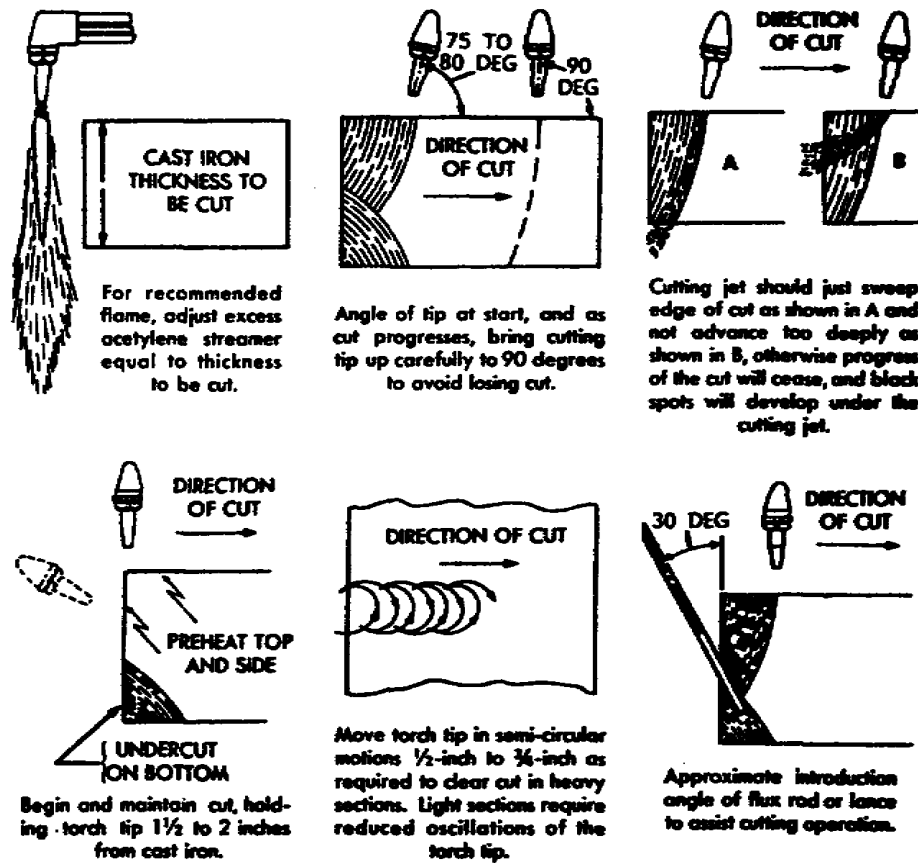

Figure 17. Procedure for oxyacetylene cutting of cast iron.
(1) General. Plain carbon steels, with a carbon content not exceeding 0.25 percent, can be cut without special precautions other than those required to obtain cuts of good quality. On the other hand, certain steel alloys develop high resistance to the action of the cutting oxygen making it difficult, and sometimes impossible, to propagate the cut without the use of special techniques.
(2) High-carbon steels. The action of the cutting torch on these metals is similar to a flame-hardening procedure, inasmuch as the metal adjacent to the cutting area is hardened by being heated above its critical temperature and quenched by the adjacent mass of cold metal. This condition can be minimized or overcome by preheating the part: at 500°F to 600°F before the cut is started.
(3) Waster plate on alloy steel. The cutting action on an alloy steel is difficult to cut by the usual procedure, and can be improved by clamping a mild steel "waster plate" tightly to the upper surface and cutting through both thicknesses. This waster plate method will cause a noticeable improvement in the cutting action because the molten steel dilutes or reduces the alloying content of the base metal.
(4) Chromium and stainless steels. These and other alloy steels that heretofore could only be cut by a melting action, rather than by rapid oxidation, can now be cut by the introduction of iron powder or a special nonmetallic powdered flux into the cutting-oxygen stream. The iron powder oxidizes quickly and liberates a large quantity of heat. This high heat, in turn, melts the refractory oxides which normally protect the steel from the action of oxygen. These molten oxides are flushed from the cutting face and the cutting oxygen is enabled to, act upon the iron remaining in the steel. The nonmetallic flux, introduced into the cutting-oxygen stream, combines chemically with the refractory oxides producing a slag of a lower melting point that is washed out of the cut; thus, exposing the steel to the action of the cutting oxygen.
(5) Cast iron. Cast iron melts at a temperature lower than its oxide; therefore, in the cutting operation, the iron tends to melt rather than to oxidize. For this reason, the oxygen jet is used to wash out and erode the molten metal when cast iron is being cut. To make this action effective, the cast iron must be preheated to a high temperature and much heat must be liberated deep in the cut. This is affected by adjusting the preheating flame so that there is an excess of acetylene. The length of the acetylene streamer and the procedure for advancing the arc are shown in figure 17. The use of mild iron flux to maintain a high temperature in the recesses of the cut is also effective.